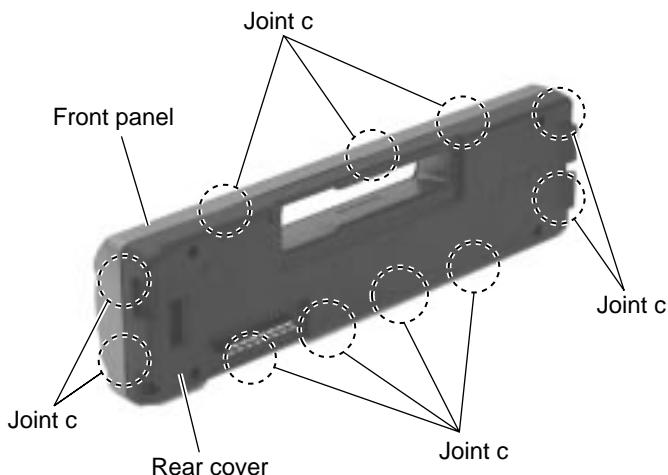

Fig.11
■ Removing the pinch arm (F) assembly (See Fig.11 and 12)
1. Remove the polywasher and pull out the pinch arm (F) assembly.
■ Removing the pinch arm (R) assembly (See Fig.11 and 13)